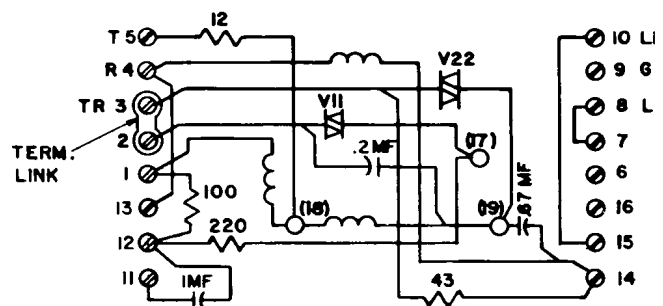

Figure 3. Schematic Diagram of Transmission Network for Self-Compensating Circuit.
2.25 The series-rheostat transmission unit circuit has been superseded by the self-compensating varistor-regulated circuit. This circuit employs varistor action for regulating the amplitude of both the sidetone and transmission signals. Two varistors included in the network exhibit decreased resistance when the potential across them increases due to the increase in loop current in short loop connections. Varistor V11, which is bridged across the line in series with a limiting resistor (Figure 3) introduces a shunt loss between the impedance of the line and the impedance of the set. This provides regulation of both the transmit and receive levels. Varistor V22 provides an a-c path which shunts resistor R3 in the sidetone balancing impedance, as well as a d-c path which shunts the transmitter branch. Therefore, this varistor serves the dual function of maintaining sidetone balance while controlling transmitter current.